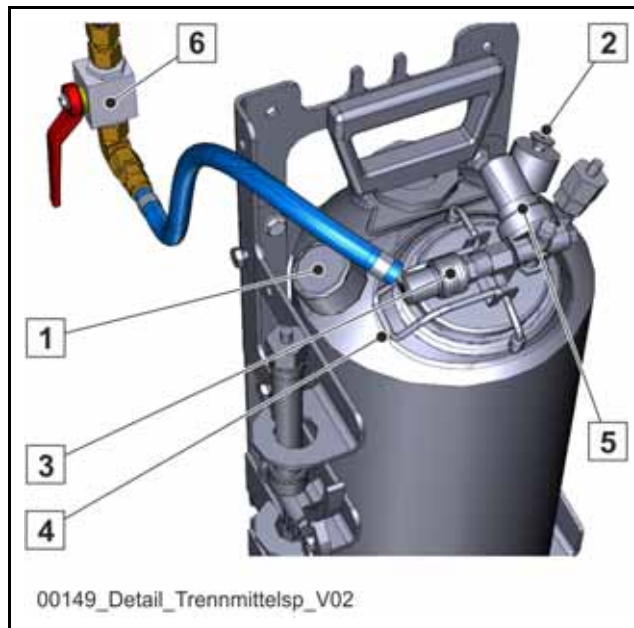

Fig. 632
Only open the pressure tank if the pressure gauge on the pressure tank (1) (Fig. 632) is pointing to "0".
Caption (Fig. 632)
2. Connect the quick-acting coupling (3) (**Fig. 632**) to the compressed air supply of the pressure tank.
3. If available, open the ball valve (6) (**Fig. 632**).
The pressure release valve (5) (**Fig. 632**) is set to the optimal value in the factory and may only be changed by a SCHWING representative.
- Disconnect the compressed air supply from the pressure tank, if available, by closing the ball valve (6) (**Fig. 632**) or by switching off the vehicle and disconnecting the quick-acting coupling (3) (**Fig. 632**).
- Open the pressure relief valve (2) until compressed air no longer exits the pressure tank.